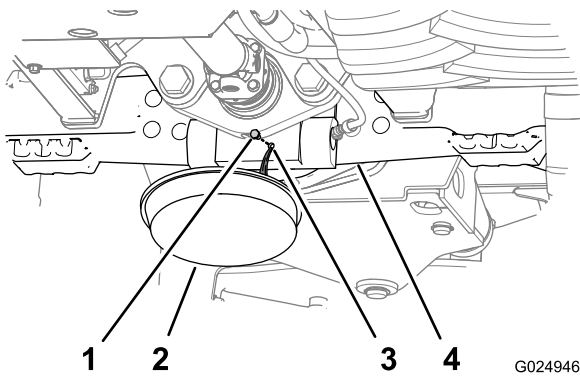
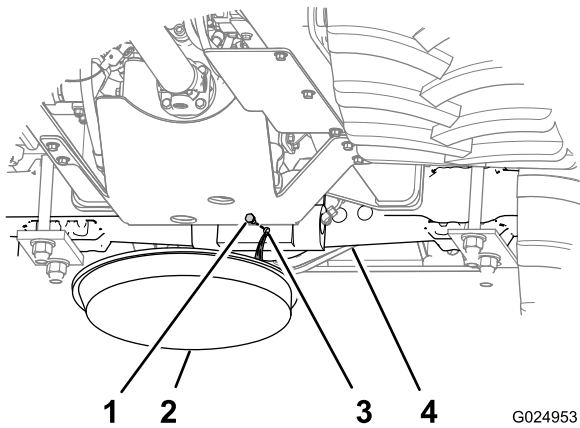

Figure 93
Figure 94
1. Place a drain pan under the pinion housing of the axle (Figure 93 and Figure 94).
2. Remove the plugs from the sight port and the drain port of the pinion housings for the axles (Figure 93 and Figure 94).